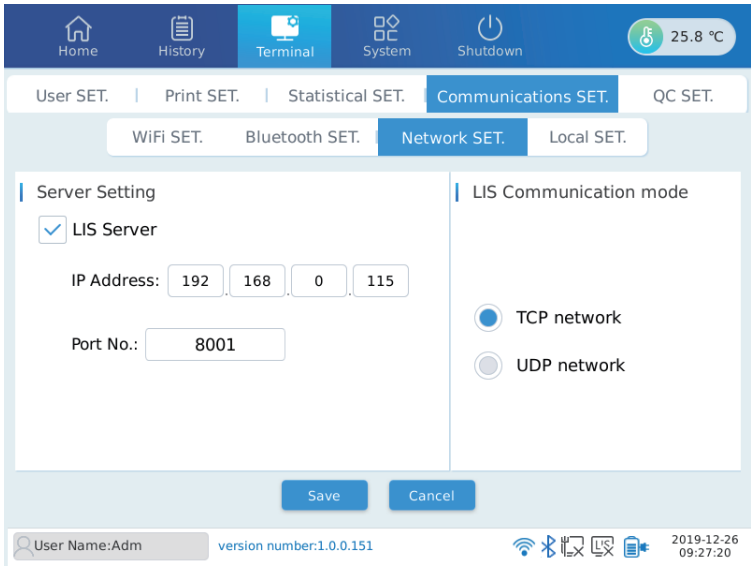

Fig. 7.8
2) Set up the network port IP address of the instrument for LIS transmission and ensure consistency with IP address of the computer terminal (See Fig. 7.8).